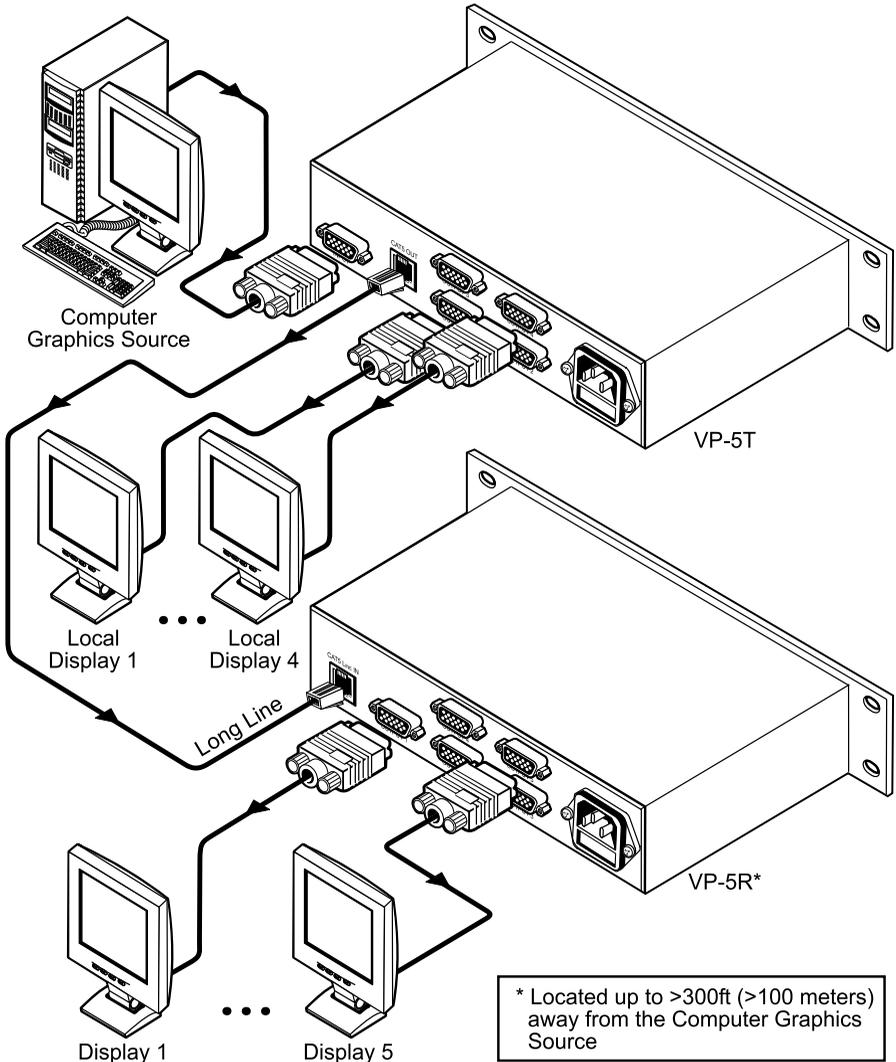

Figure 12: Connecting the VP-5T and the VP-5R
To connect the **VP-5T/VP-5THD** with the **VP-5R**, as the example in *Figure 12* illustrates, do the following:
4. Connect the power cord² (not illustrated in *Figure 12*) to the **VP-5T/VP-5THD** , and connect the other power cord² to the **VP-5R**.